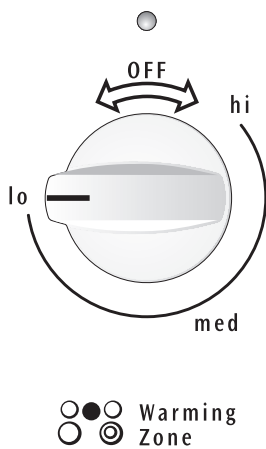

Fig. 3
1. Push in either direction and turn the knob (See Fig. 3). The temperatures are approximate, and are designated by **HI, MED & LO**. However, the control can be set at any position between HI and LO for different levels of warming.